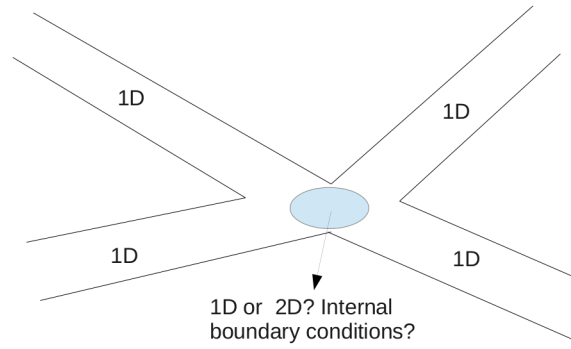

Figure 3:
3. How do the internal boundary conditions/constraints compare when the flow merges at a cross section? (reference: Fig. 3)